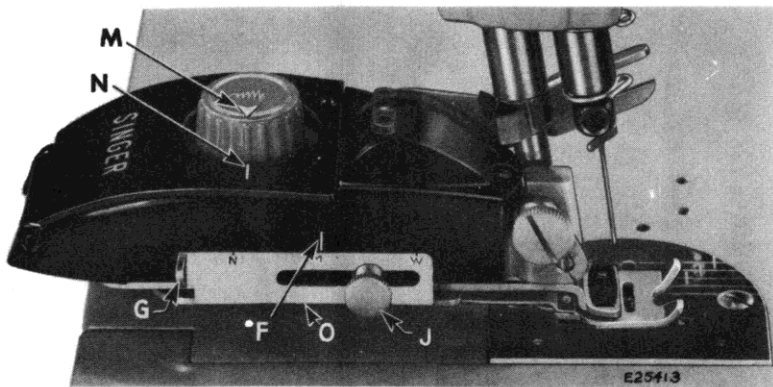

Fig. 9. To Regulate Bight and to Set Stitch Pattern to Start Design
6. Turn stitch pattern so that arrow **M**, **Fig. 9** points to line **N** on top of cover. This setting denotes the beginning of the Zigzag, Domino and Arrowhead patterns and the central position for all other patterns. It also centers the foot for straight stitching.
1. Stop machine when zigzagger foot is in central position with arrow **M**, **Fig. 9** opposite line **N**.
Set Stitch Pattern so that arrow **M**, **Fig. 9** is directly opposite line **N** on cover of zigzagger. If, for any reason (such as thread breaking or bobbin running out of thread), it is necessary to start in middle of a design, stitch on a scrap of material until that point in design is reached. Then place work under needle at exact point in design. Continue to stitch.